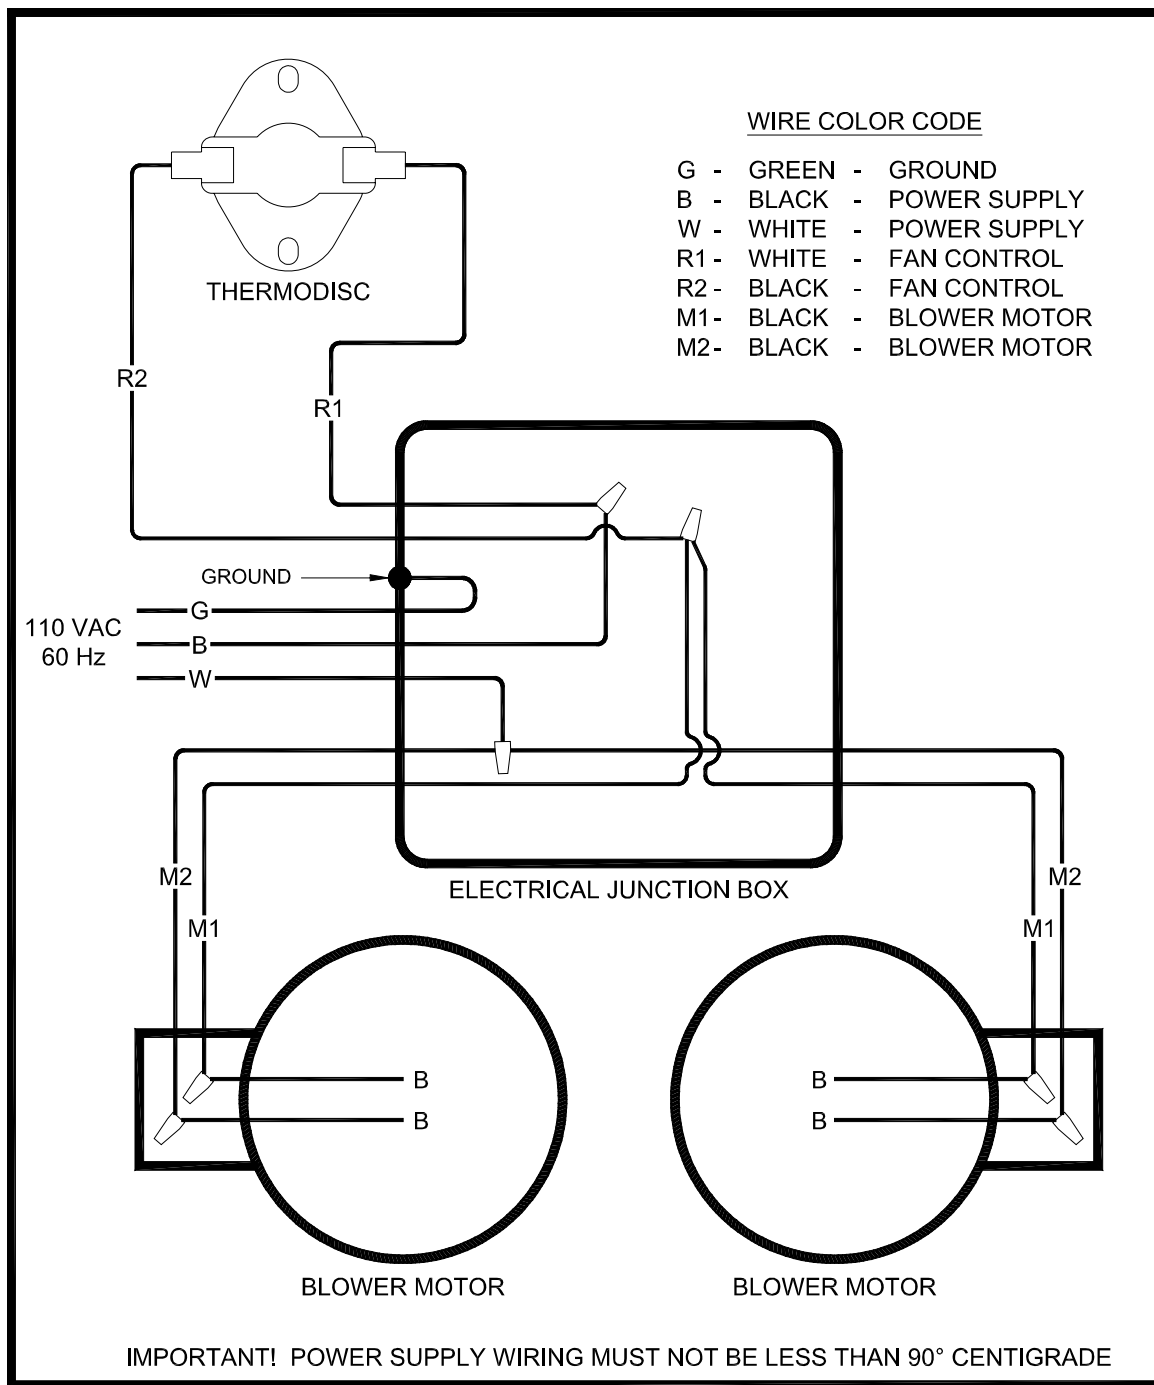

FIGURE 11
6. Wire right side blower first (See wiring diagram, Fig. 11) and replace cover on junction box on blower.
f) Connect electrical supply in the electrical junction box that is mounted on the back of the Furnace. See Wiring Diagram (Fig. 11). Remove the cover from electrical junction box and connect power supply wires to wires designated, using wire nuts. The power cord supplied may be used for installation, if permitted by local codes and regulations. If the power cord supplied cannot be used, the power supply wiring must be 90 degrees centigrade in a metal cable and should be completed by a qualified installer complying with NFPA Standard No. 70 and local codes.